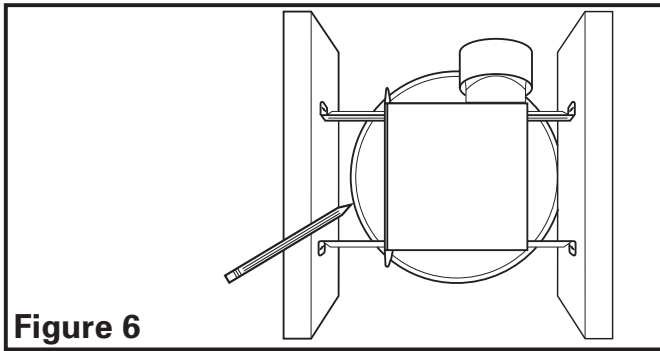

Figure 6
- 1a. **Slide Rail Installation:** Set housing in position between the joist and trace an outline onto the ceiling material (**Figure 6**). Set housing aside and cut opening, being careful not to cut or damage any electrical or other hidden utilities. Install the slide rails on the housing and position the housing in the previously cut hole so that it is flush with the finished ceiling. Secure the ends of the rails with screws or nails (not included) to the joists (**Figure 4**).